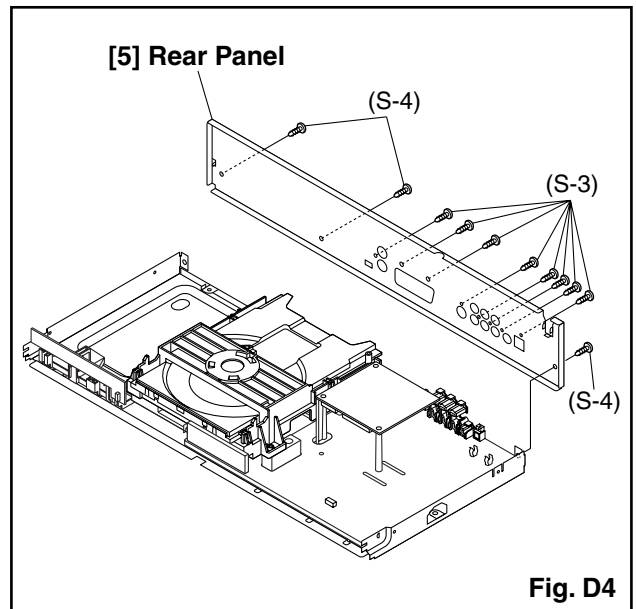

Fig. D4
- 2-1. Short the three short lands of FPC cable with solder before removing the FFC cable (CN201) from it. If you disconnect the FFC cable (CN201), the laser diode of pickup will be destroyed. (Fig. D4)
- 2-2. Disconnect Connectors (CN301), (CN401) and (CN601). Remove two Screws (S-5A) and (S-5B) and lift the DVD Main CBA Unit. (Fig. D4)
CAUTION 3: When reassembling, confirm the FFC cable (CN201) is connected completely. Then remove the solder from the three short lands of FPC cable. (Fig. D4)